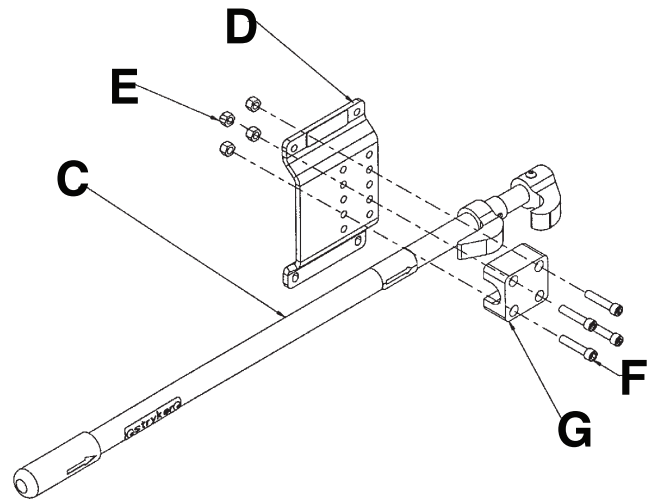

Figure 21 – Attach the rail clamp to rail assembly
8. Position the rail assembly (C) on the wall mounting bracket (D) (Figure 21).
9. Install the four Nylock hex nuts (E) and four 5/16-18 x 2 in. socket head cap screws (F) to attach the rail clamp (G) to the rail assembly (Figure 21).